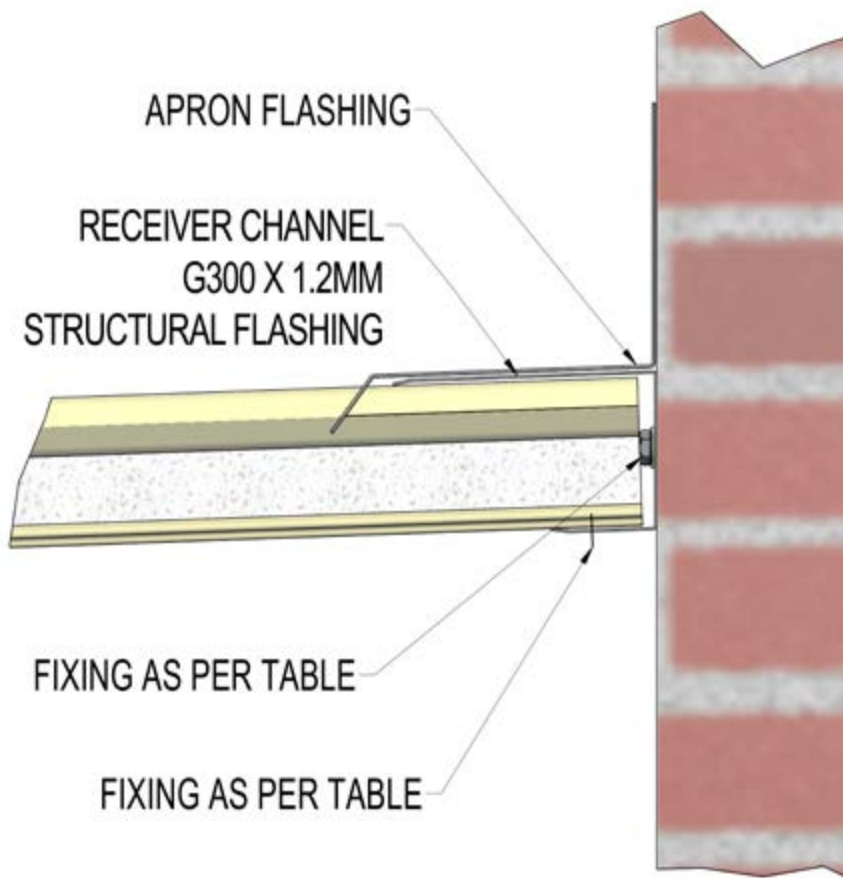

Figure A34
**Roofing to Blockwork Wall (see Figure A34)**